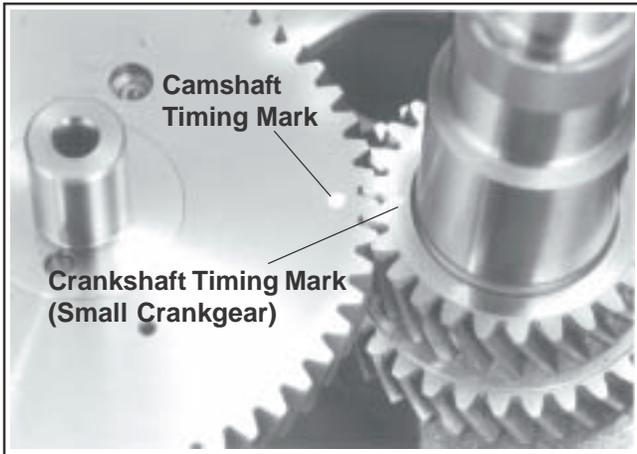

Figure 11-12. Aligning Timing Marks on Crank Gear and Cam Gear.
5. Make sure the camshaft gear and the smaller gear on the crankshaft mesh and the timing marks are aligned. See Figure 11-12.